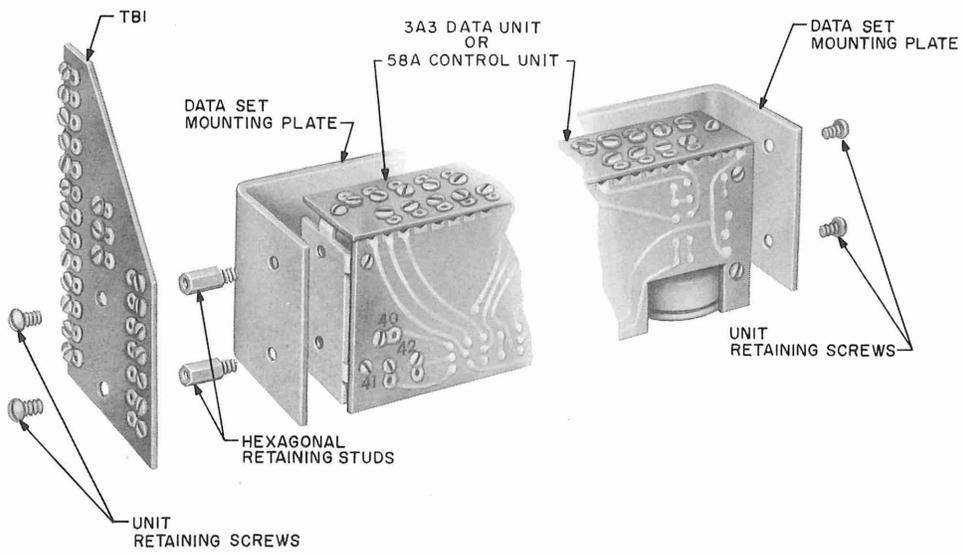

Fig. 13—58A Control Unit or 3A3 Data Unit—Typical Mounting Detail
- (3) Turn back the terminal board (TB1) and remove the two hexagonal retaining studs (Fig. 13).
- (4) Disconnect all wiring to the 58A terminal block or to the 3A3 terminal block. Note the color code on each terminal lug. Use Table